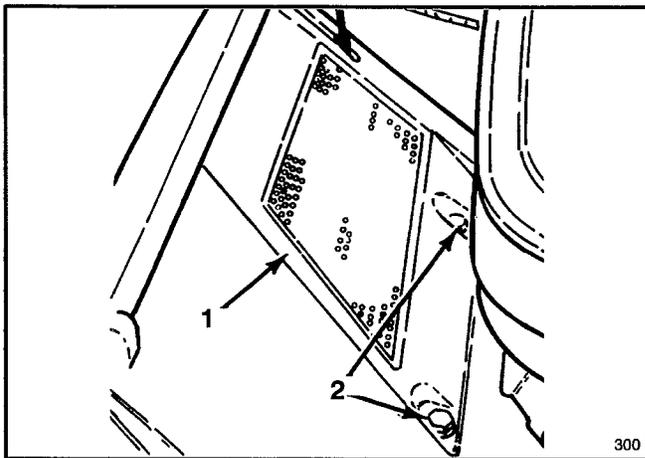

Figure 30
2. Remove two 13 mm (1/2") self-tapping screws securing panel screen to mower deck and remove panel screen (Fig. 30).